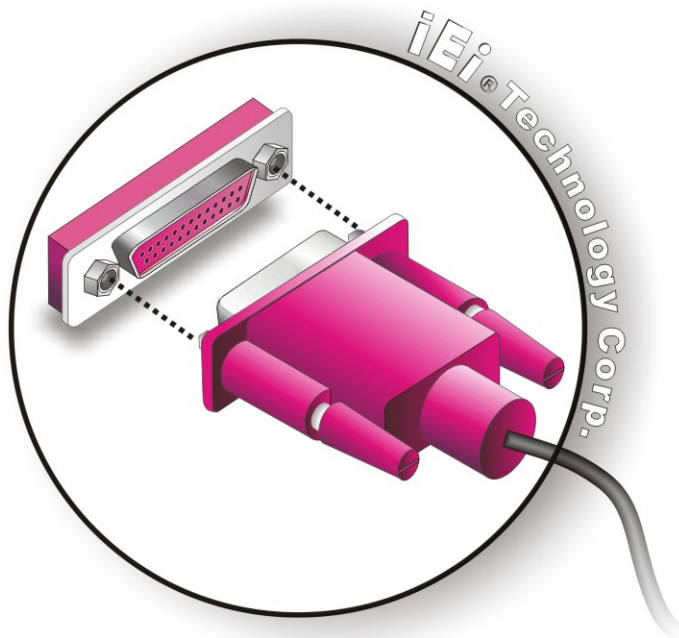

Figure 5-24: Parallel Device Connector
Step 2: Insert the DB-25 connector. Insert the DB-25 connector of a parallel device into the DB-25 connector on the external peripheral interface. See Figure 5-24.